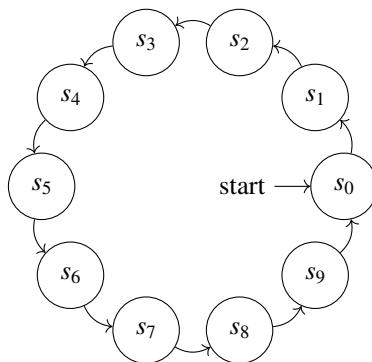

Fig. 6.1: FSM for the decade counter
- Fig. 6.1 shows a *finite state machine* (FSM) diagram for the decade counter in Fig 5.2  $s_0$  is the state when the input to the incrementing decoder is 0 The *state transition table* for the FSM is Table 3.4, where the present state is denoted by the variables  $W, X, Y, Z$  and the next state by  $A, B, C, D$ .
For the FSM in Fig 6.1, the number of states is 9, hence the number flipflops required = 4